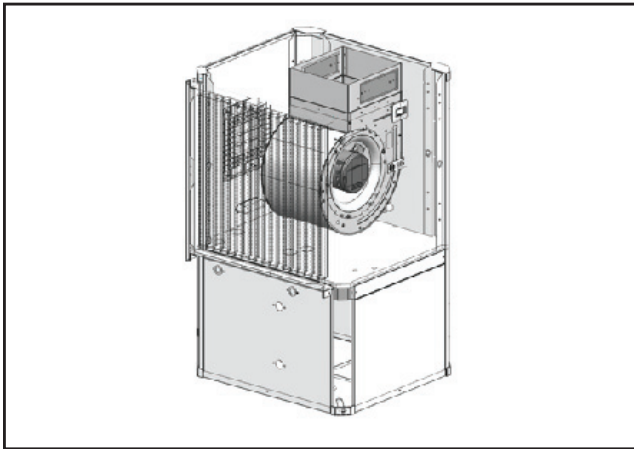
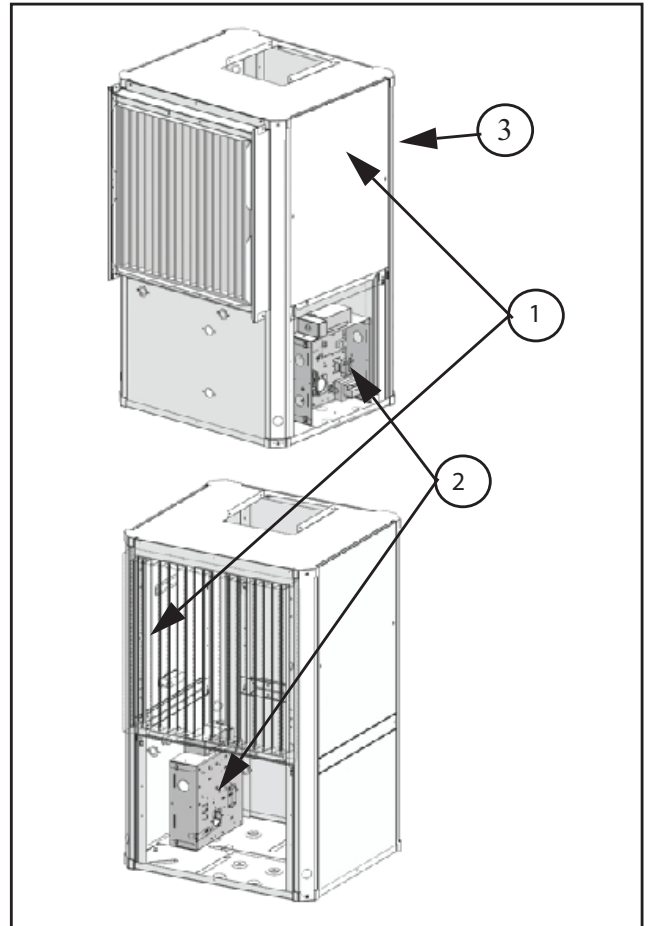

Fig. 55 - Top Discharge (Default)
Fig. 58 - Unit Identifiers
The Vertical (VT) Configuration water source heat pump is designed to be field configured for various configurations. This is achieved by relocating Electrical box (E-box), unit panels and reorienting blower to discharge UP, BACK, OR SIDE. See Fig. 55 Through Fig. 58 for more detail.